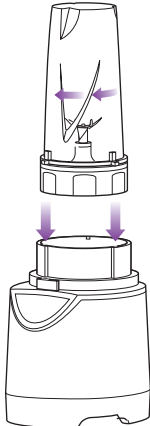

Fig. 2
- 4 Turn the single serve cup upside down and place it onto the motor base, aligning the tabs on the cup with the motor base. Turn clockwise until the unit locks in place, the unit is ready for use. (Fig. 2)
- 4 Holding the desired attachment by the shaft, place it onto the drive gear inside the container. Ensure that the attachment is seated properly and is standing upright. (Fig. 2)